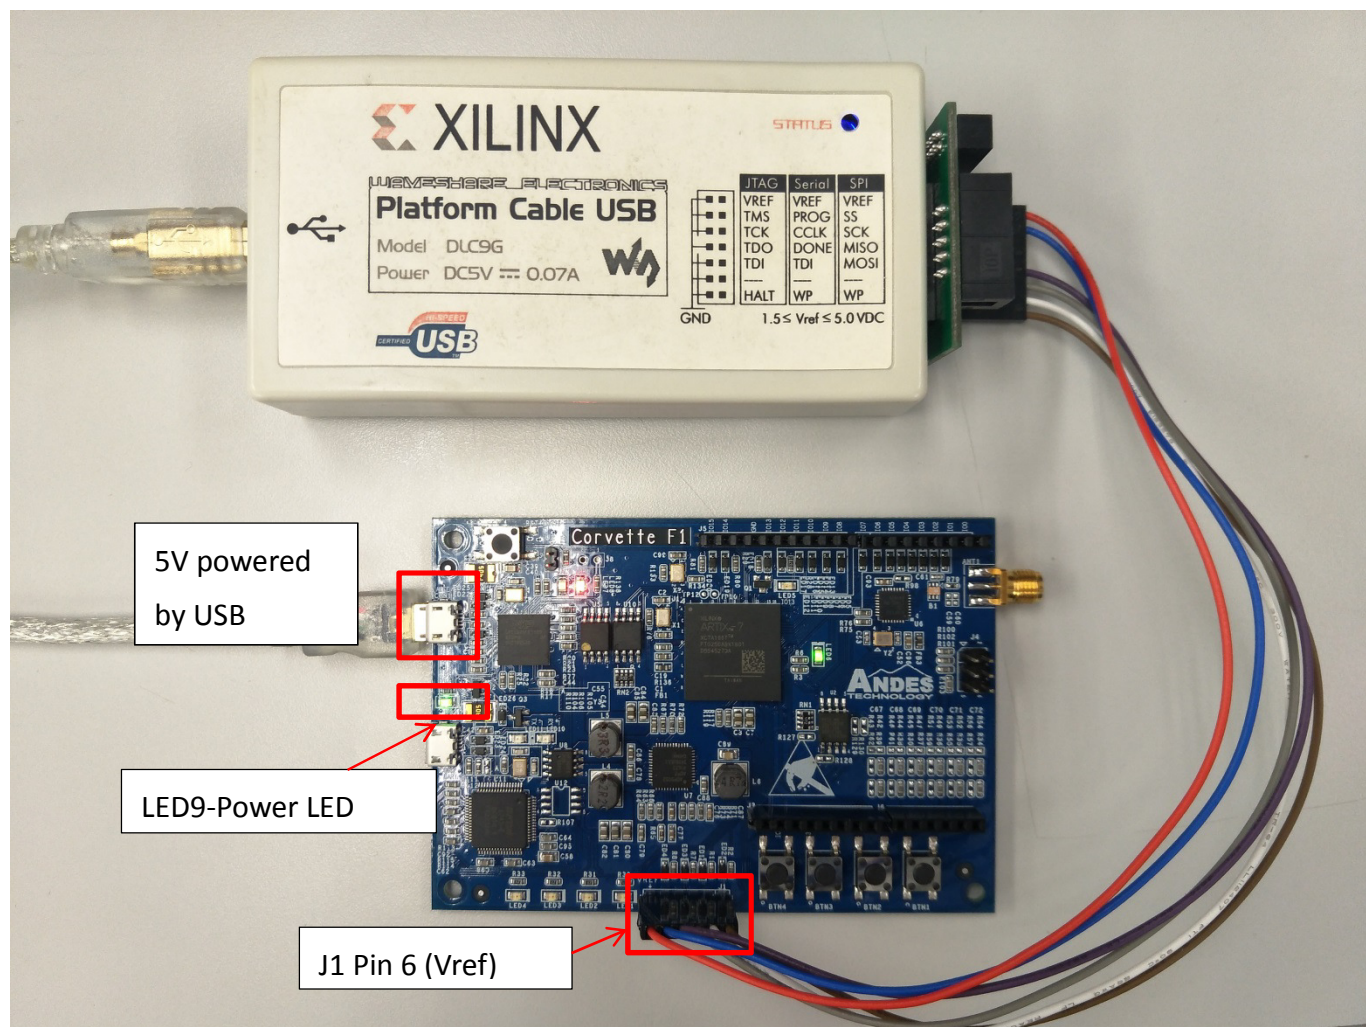

Figure 7. Platform Setup up
- ❖ Connect Xilinx Platform Cable to a USB port of Host PC and JTAG port (J1) on Corvette-F1 as Figure 7.
- ❖ Supply 5V power from Host PC by USB cable. The Power LED (LED9) should be lighted on as Figure 7.